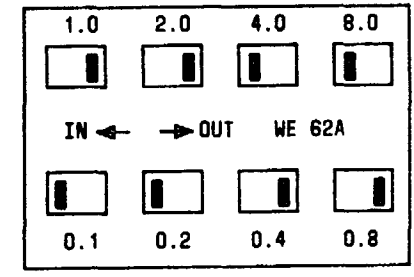

FIG. 4
- Slide switch [FIG. 4] → Page 4